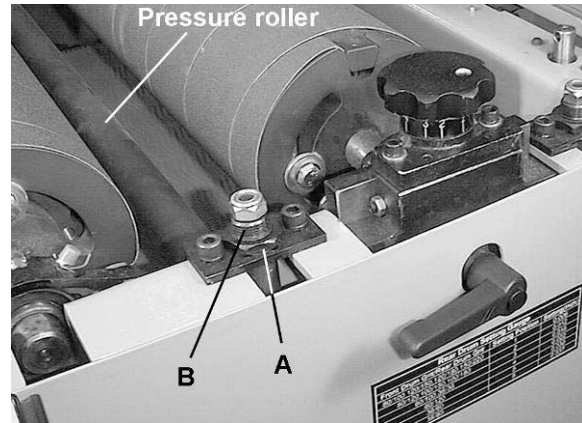

Figure 10
The pressure rollers (Fig. 10) maintain tension upon the workpiece as it passes through the machine. The spring tension of the pressure rollers has been factory set. If a board refuses to pass through the machine, or the finished surface of a board is uneven, the spring tension of the pressure rollers may need adjusting.
1. Loosen the hex nut (A, Fig. 10).
2. Place a 17mm wrench over the flat on the adjusting screw (B, Fig. 10) and lower the screw to increase the roller pressure on the workpiece; or raise the screw to decrease the pressure.
3. Retighten hex nut (A, Fig. 10).